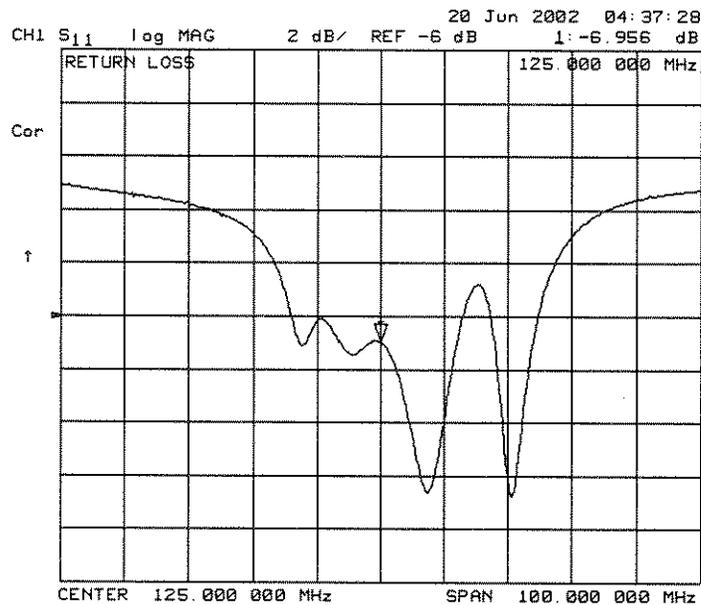

Figure 2-11. Example Measurement Title
2. Press **DISPLAY** **MORE** **TITLE** and then create a title for the measurement, as shown in Figure 2-11: